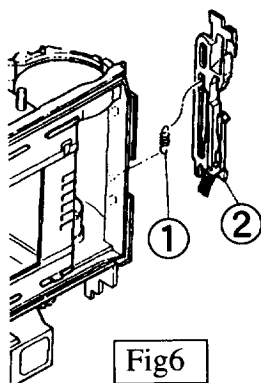

Fig6
- (1) Remove the SPRING (①) and remove the BACK DOOR BUTON (②). (Fig. 6)